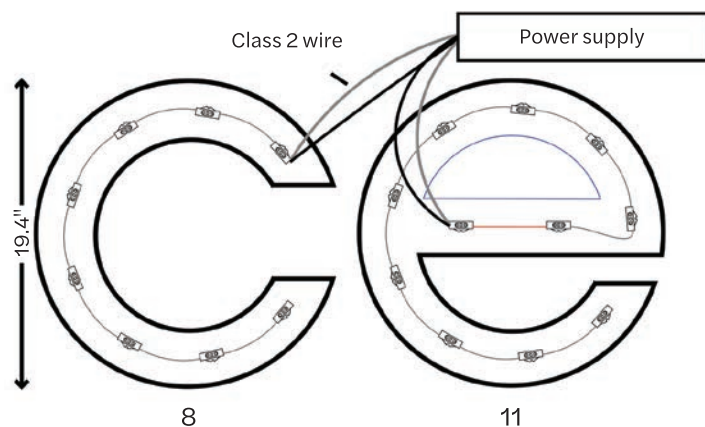

Fig. 1
- C.** For power supply loading, refer to our website: *PrincipalSloan.com*. Use only UL (USA) or cUL/CSA (Canada) approved Class 2 wire to connect the modules from each can back to the power supply with wire nuts as shown in Figure 1. Principal Sloan module wires are generally white or colored (+) and black or gray (-).